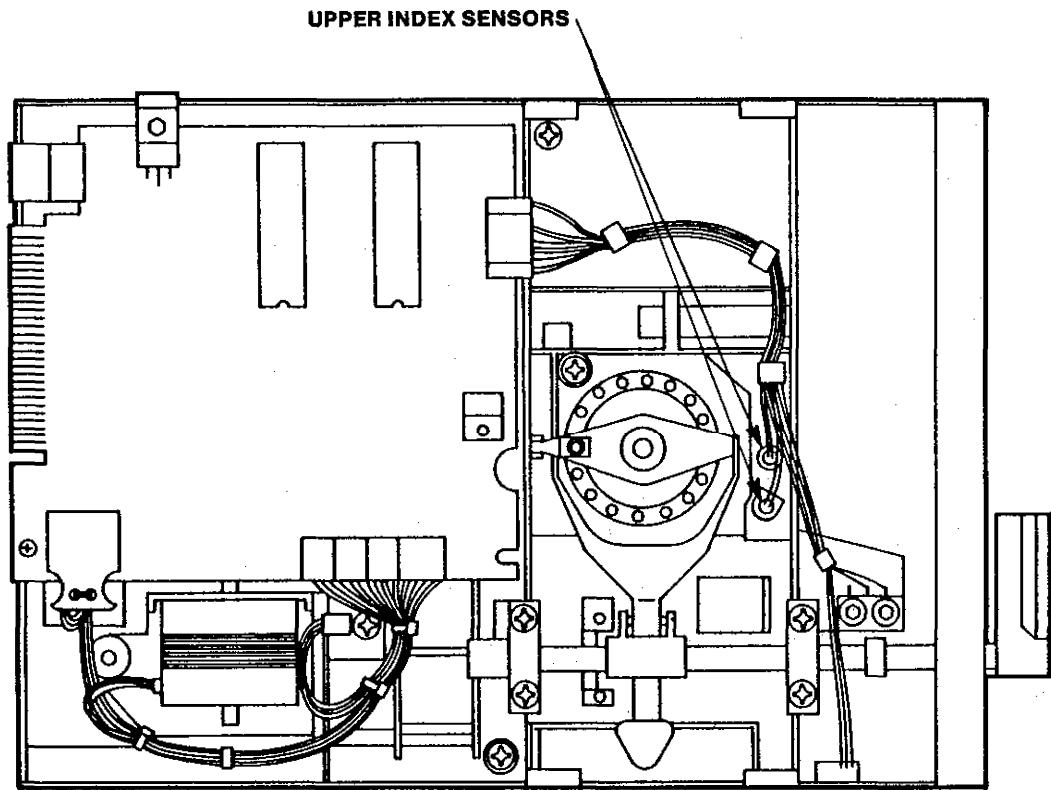

FIGURE 6-14
4. Remove the Bridge Assembly, and upper index sensors (Figure 6-14).